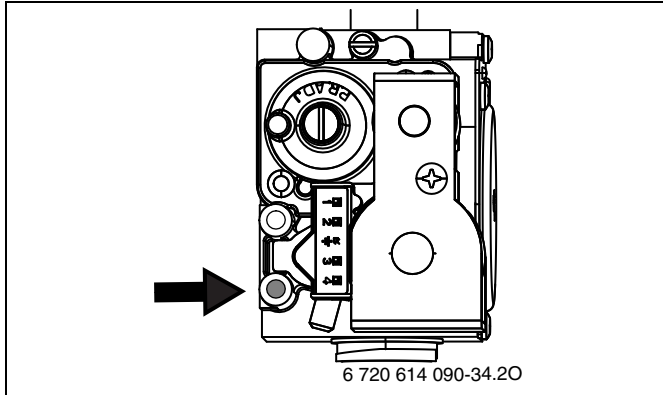

Fig. 81 Dynamic gas pressure test port
- ▶ Loosen the screw in the test port for gas inlet pressure (→ Fig. 52, [1]) and connect a pressure gauge (→ Fig. 81).